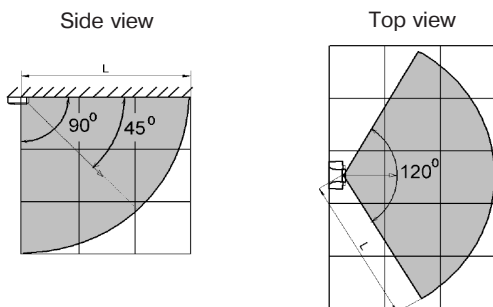

Figure 1 – GB channel detection pattern
- when choosing the place of installation, the Detector detection zone location must be taken into account (Figure 1);